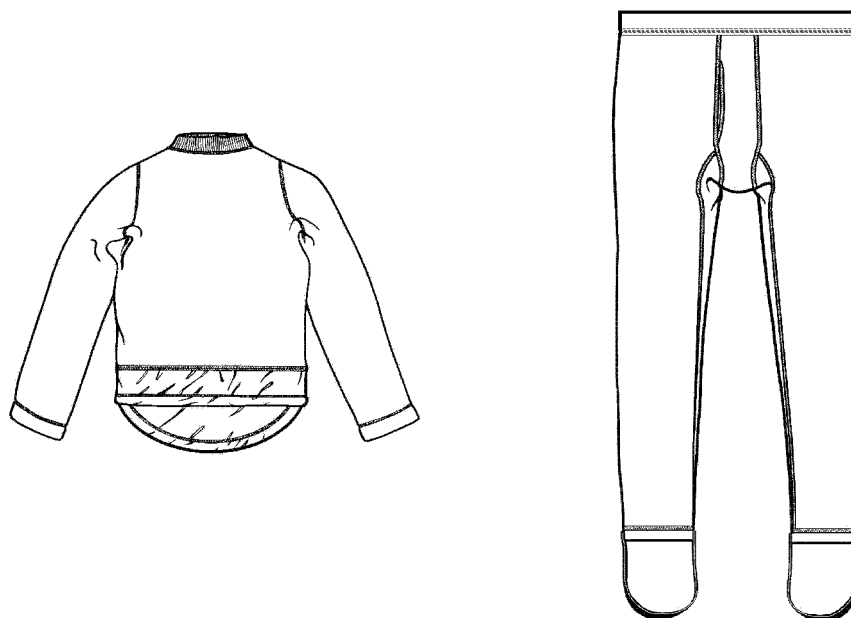

Figure 3-43. Midweight Shirt and Trouser
2. The **midweight** garment set (figure 3-43) is a medium weight layer for use alone or for layering over and under other layers of the MCPS. The set is constructed of an aramid fleece engineered to provide flame protection in a garment that wicks and provides a comfortable fit. The aramid fleece is worn on the inside next to the skin and a polyester Lycra blend on the outside to provide a closer fit. The shirt has an aramid mesh cloth on the bottom to reduce bulk when tucking in. The drawer has a front fly and elastic waist. The elastic stirrup on the bottom of the leg is to aid in donning layers overtop and can be cut off by aircrew who do not like this feature.